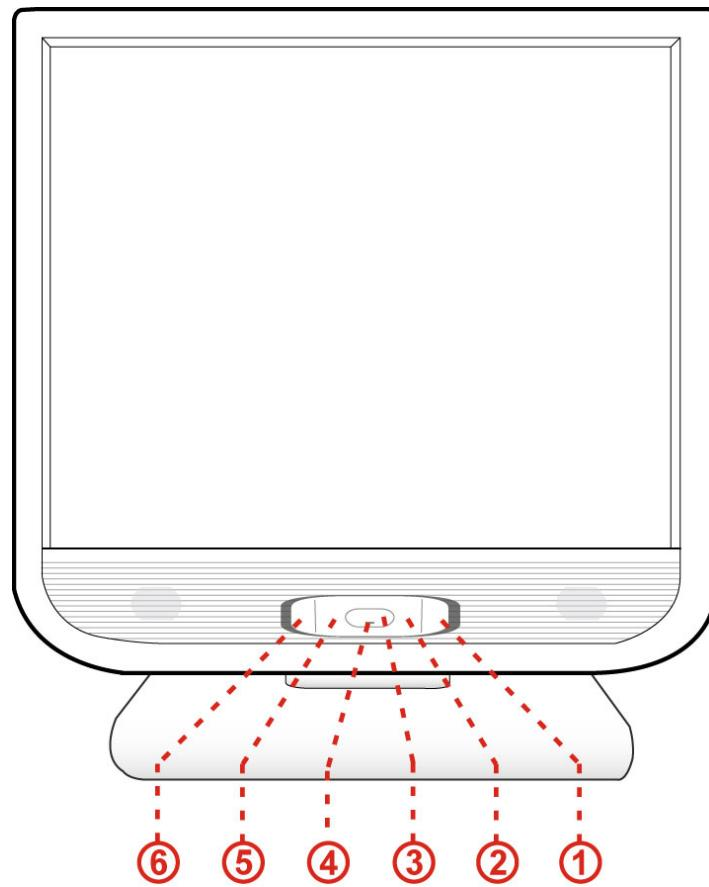

Figure 4. External Control Button
Press the power button to turn the monitor on or off. The other control buttons are located at front panel of the monitor (See Figure 4). By changing these settings, the picture can be adjusted to your personal preferences.
<p>BRIGHTNESS CONTRAST</p> <p>BRIGHTNESS</p> <p>CONTRAST</p> <p>< > ADJUST MENU:ENTER AUTO:EXIT</p>	<p>Brightness/Contrast adjustment:</p> <p>Brightness: Adjusts brightness by using the buttons < or > (② and ⑤ in fig. 4).</p> <p>Contrast: Adjusts screen contrast by using the buttons < or > (② and ⑤ in fig. 4).</p>
<p>IMAGE CONTROL</p> <p>AUTO ADJUSTMENT</p> <p>H. POSITION</p> <p>V. POSITION</p> <p>CLOCK</p> <p>PHASE</p> <p>< > ADJUST MENU:ENTER AUTO:EXIT</p>	<p>Image Control:</p> <p>Auto Adjustment: Automatically selects the optimal settings for image parameters (image position, phase, etc.) by using the button MENU (① in fig. 4).</p> <p>H. Position: Controls the picture's horizontal position.</p> <p>V. Position: Controls the picture's vertical position.</p> <p>Clock: Sets up the internal clock. Larger values make the displayed image appear wider; smaller values make it appear compressed.</p> <p>Phase: Adjusts the internal clock's time lag in order to optimize the screen image.</p>
<p>COLOR</p> <p>9300K</p> <p>6500K</p> <p>CUSTOM COLOR</p> <p>< > ADJUST MENU:ENTER AUTO:EXIT</p>	<p>Color:</p> <p>This menu lets you select a preset color temperature</p> <p>(9300K, 6500K) by pressing the OSD buttons < or > (② and ⑤ in fig. 4). Changes to the color temperature take immediate effect on screen. If you wish to set individual color values, select the Custom Color option. Then press the MENU button (① in fig. 4) to select the red, green and blue settings and set the desired value using the OSD buttons < or > (② and ⑤ in fig. 4). The current settings are automatically saved when you return to the previous level or exit the OSD menu.</p>